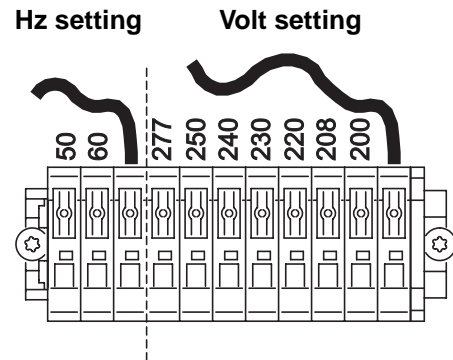

Figure 7: Frequency and voltage settings
3. See Figure 7. Connect the free end of the frequency setting jumper lead (in the section marked **Hz setting**) to the terminal labeled with the local AC power frequency.